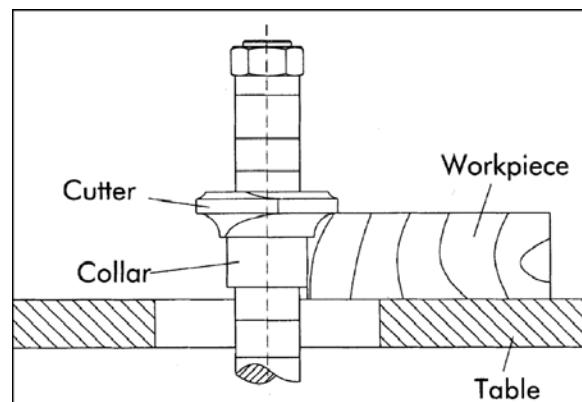

Figure 31
- When the collar is used below the cutter, as shown in Figure 31, the progress of the cut can be seen throughout the operation. However, any accidental lifting of the work will gouge the wood and ruin the workpiece.